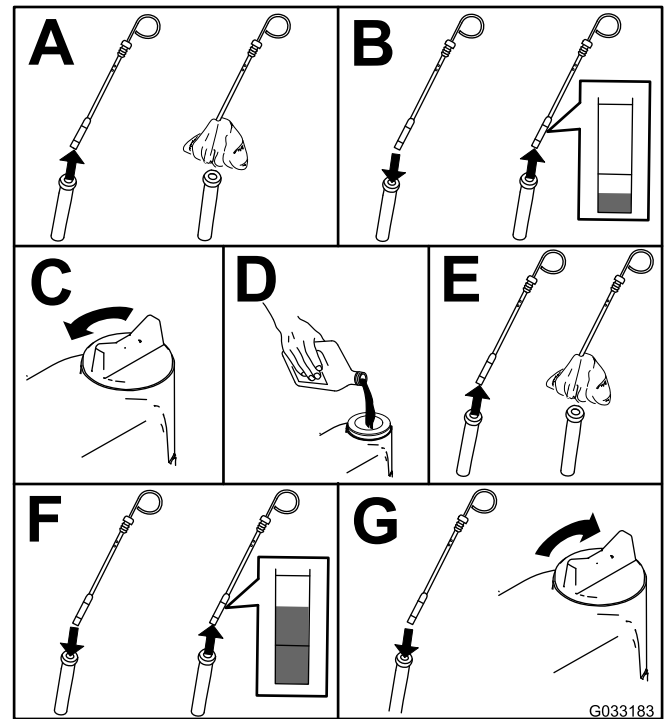

Figure 49
2. Check the engine-oil level (Figure 49).